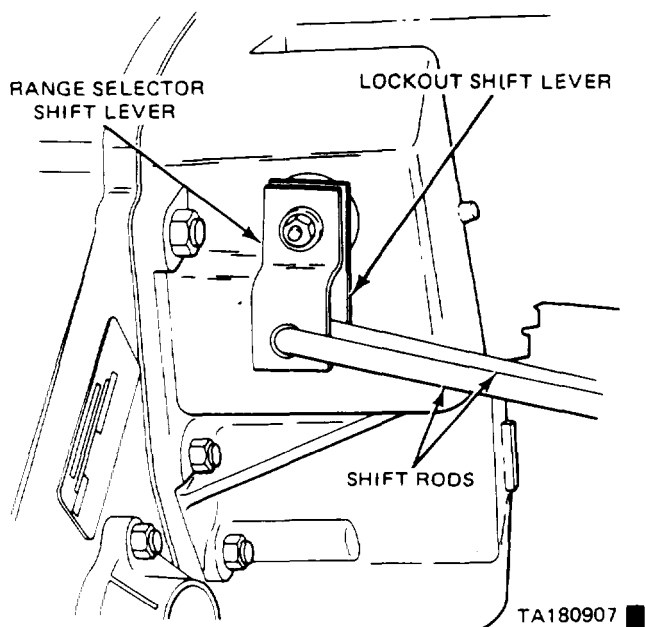

Figure 5-4. Levers Positioned for Adjustment.
(4) Place the range shift linkage (outside lever) into neutral, keeping the lockout shift lever in unlock, as shown in figure 5-4.